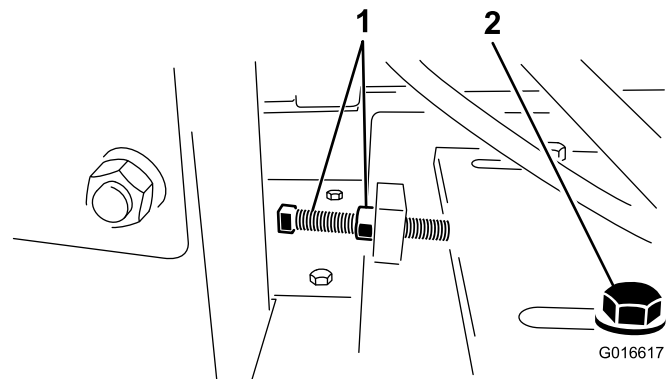

Figure 26
4. Loosen the belt tension bolt and jam nut (Figure 26).
- Loosen the belt tension bolt and jam nut, slide the engine toward the flywheel housing to loosen belt (Figure 26).